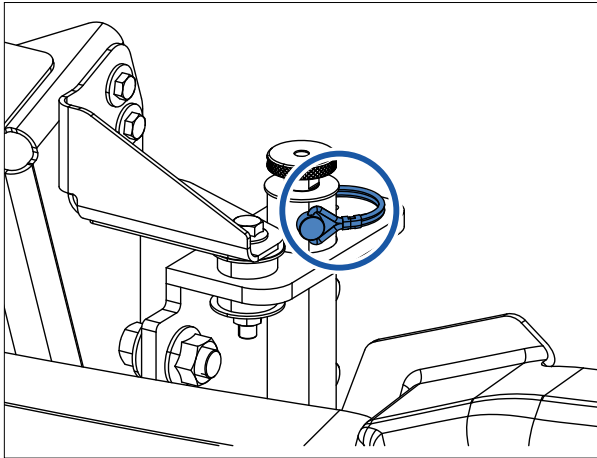

Figure 34 - Locking pins
5. Replace the lock pins on the locking dowels (**Figure 34**).